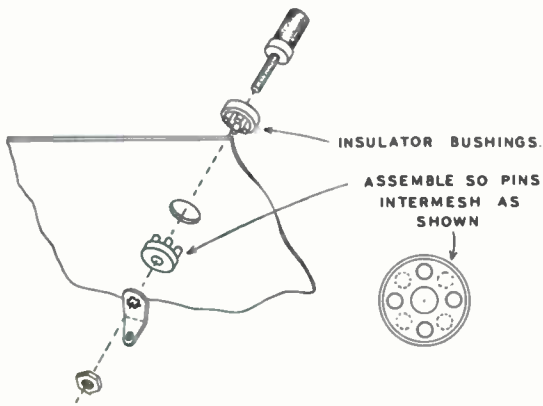
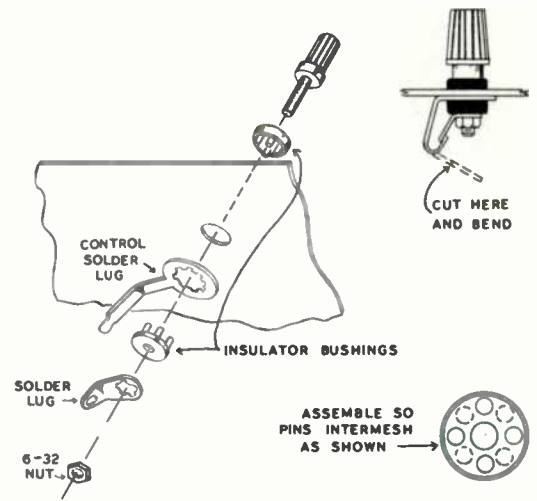

Figure 6
Figure 7
- ( ) Install the binding posts. Use binding post base, insulator bushings, solder lug and 6-32 nut. See Figure 6. On the one nearest the edge of the panel, include a larger control solder lug between the bushing and the inside of the panel. See Figure 7 on Page 9.